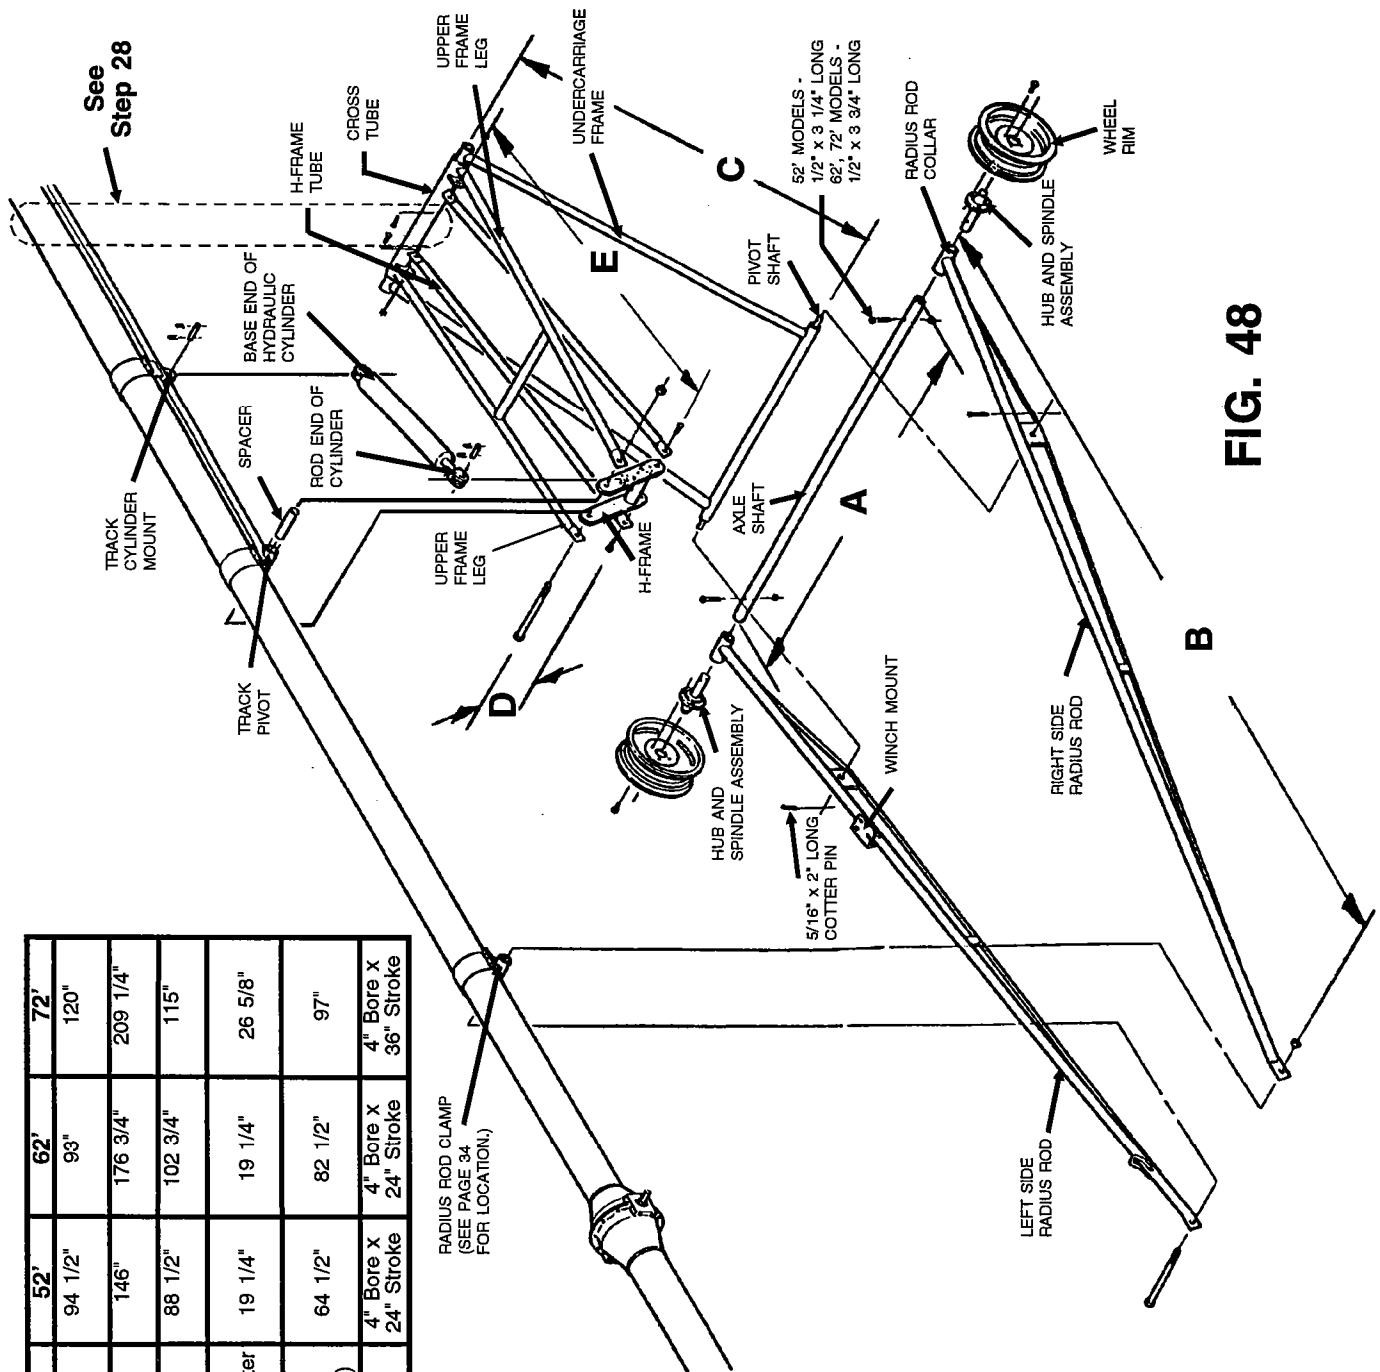

FIG. 48
Step 19. Lay out the radius rods (with trussing and square plate). The flattened ends of the radius rods must be toward the intake end of the auger. When standing at the intake end and facing the discharge end of the auger, the radius rod with the winch mount must be on the left side. See Fig. 48 on page 38. Lay the undercarriage frame between the radius rods.
- Step 28. Wrap a chain or heavy duty strap around the auger tube and undercarriage frame. Chain or strap must be tight to keep the undercarriage from opening when the tube is raised to connect the radius rods to radius rod clamp. See Fig. 48 on page 38.